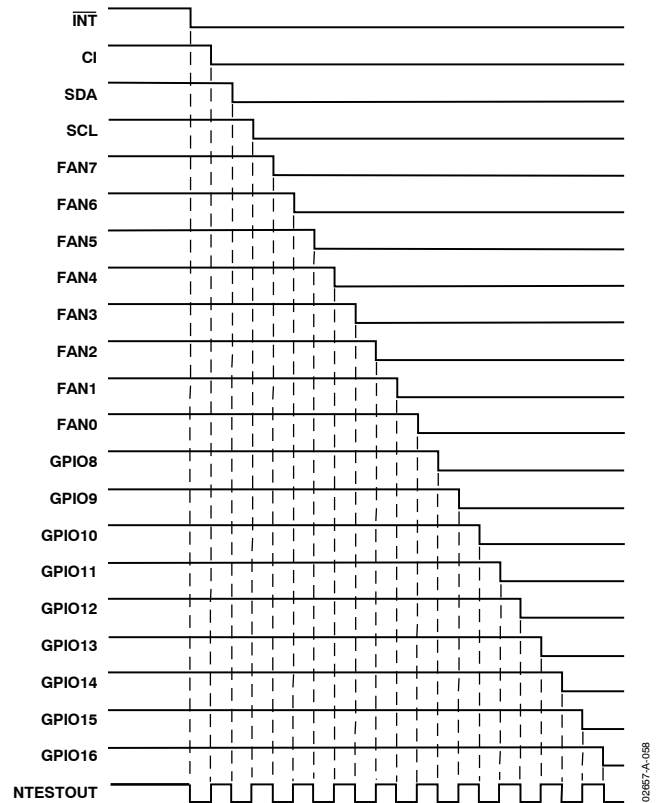

Figure 58. NAND Tree Test Taking Inputs Low in Turn
2. Start with all inputs high and take them low in turn, starting with the input furthest from $\overline{\text{NTEST_OUT}}$ ($\overline{\text{INT}}$) and working down the tree to the input nearest to $\overline{\text{NTEST_OUT}}$ ($\overline{\text{GPIO16/THERM}}$). This should give a similar output pattern to Figure 58.